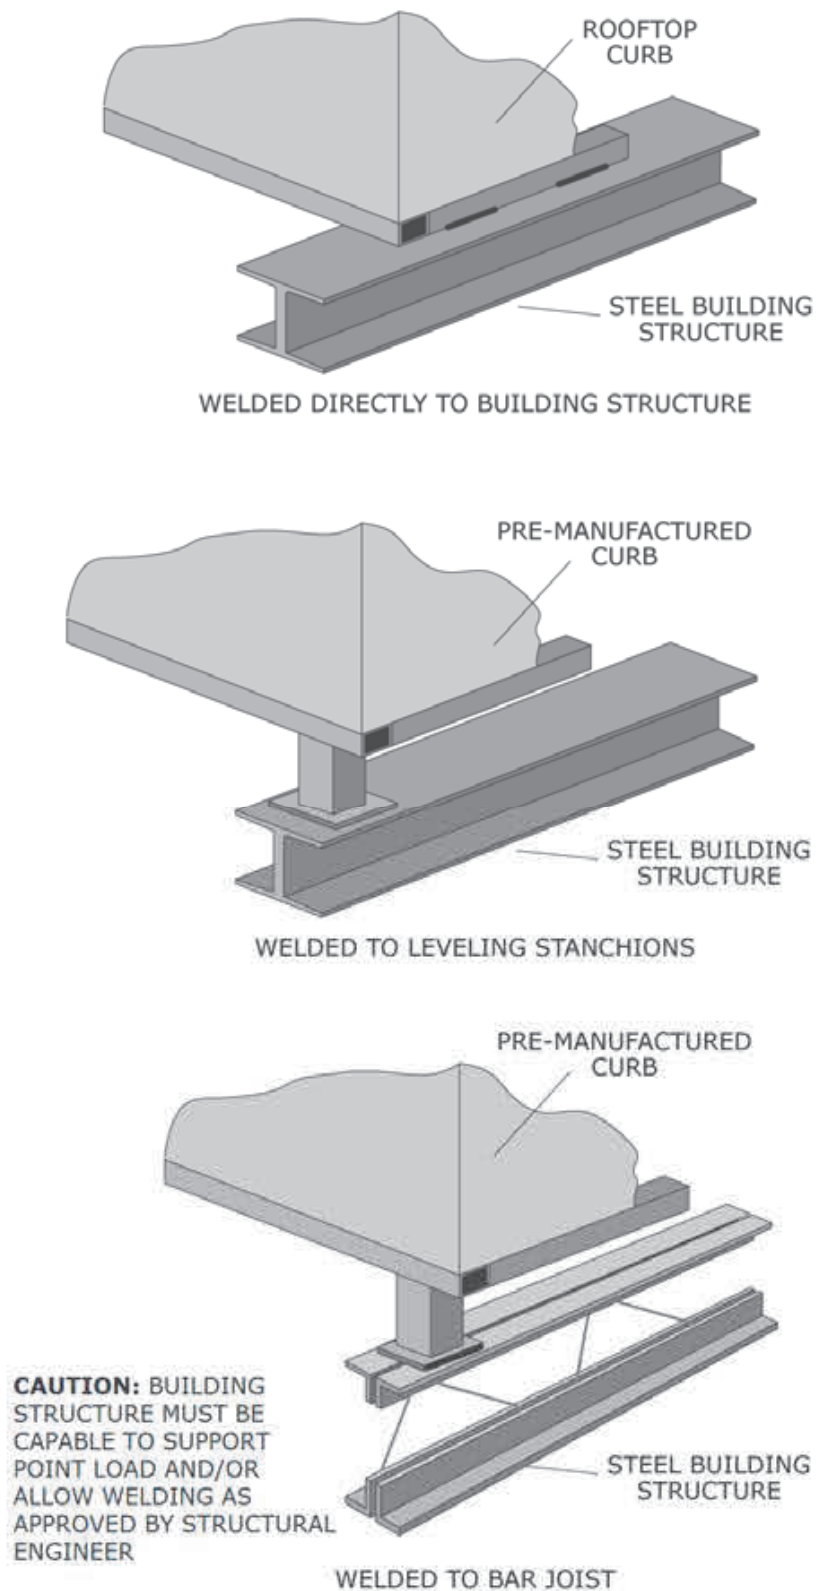

Figure 88: Pre-manufactured curb attached to building structure.
- To the building structure, see Figure 88 (page 53).